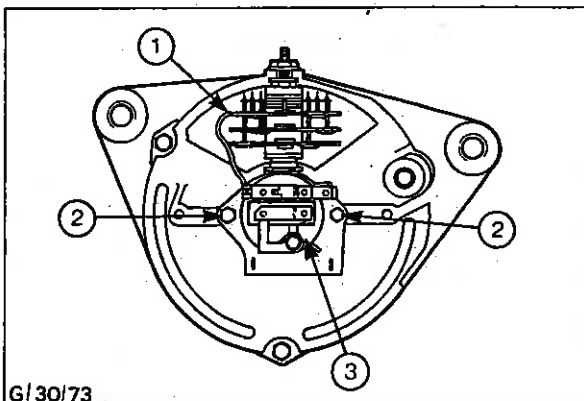

Fig. 11 - Removing the Brush Box
5. Disconnect lead (1) from the rectifier. Remove the two screws (2) and detach the brush box assembly (3) - see Fig. 11.